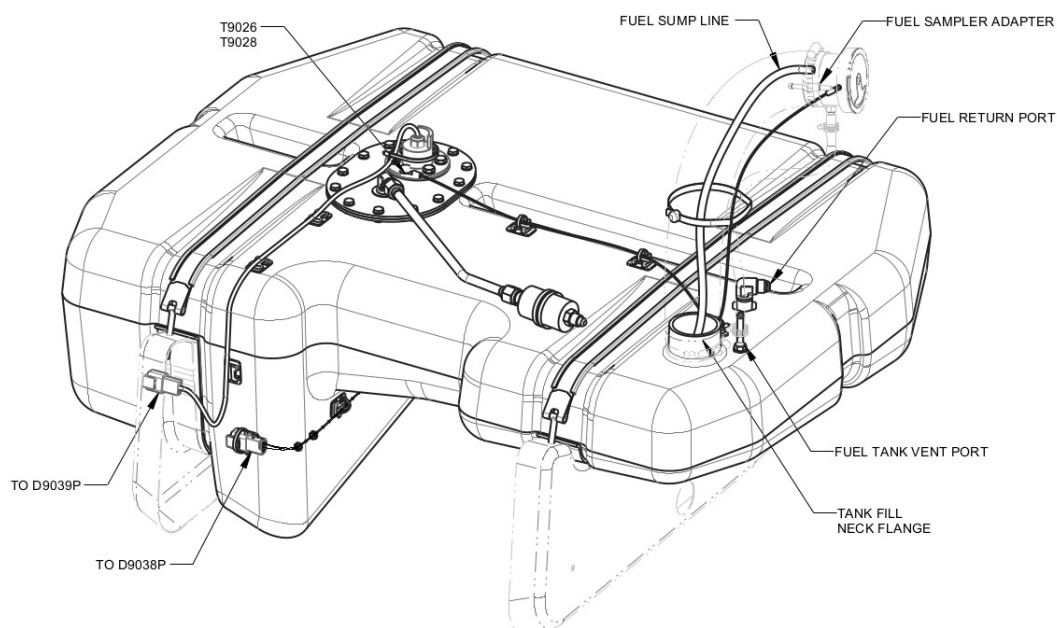

FIGURE 11-7
7. Route fuel sump hose through bottom end of fuel filler neck and connect the fuel sump hose to sump hose adapter using a new CLAMP, HOSE, CRIMP (Oetiker clamp). Tighten with ear-clamp crimpers. See Figure 11-7.
16. Connect the optical switch connector to D9038P from fuselage wire harness. See Figure 11-7.
17. Connect the fuel level sensor connector to D9038P from fuselage wire harness. See Figure 11-7.
- a. Use a 7/16 wrench to remove bolt and washer. See Figure 11-7.